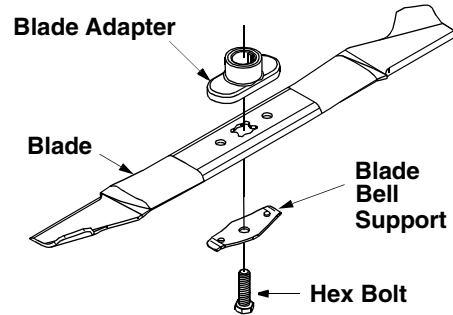

Figure 15
- Remove the bolt and blade support or bell washer which hold the blade and adapter to the engine crankshaft. See Figure 15. Remove the blade and adapter from the crankshaft.
- Install the blade adapter on the crankshaft with the "star" away from the engine. Refer to Figure 15. Place the blade with the side marked bottom (or with part number) facing away from the adapter.